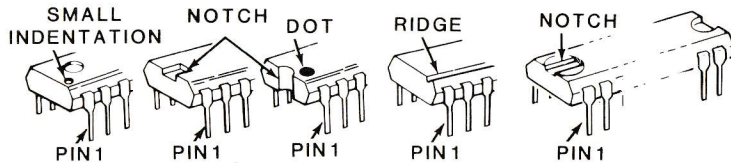

Figure 14. Pin 1 Identification
6. Refer to Figure 14 to identify pin 1 of Monitor ROM IC.